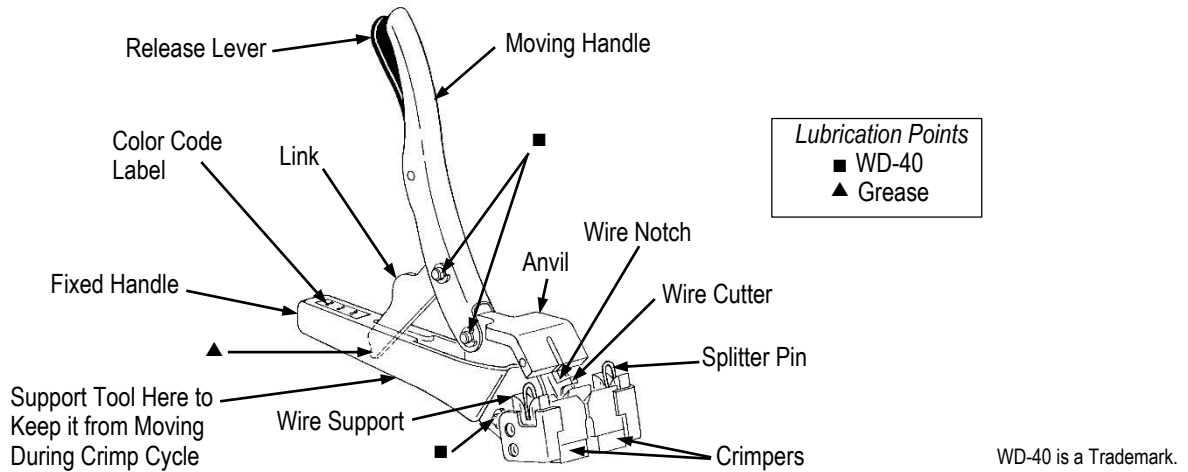

Figure 1
2. DESCRIPTION (Figure 1)
The tool must be held steady during the crimping procedure. If it moves before the crimp is completed, the wires may pull out of the connector. See Figure 1.
2. Place the tool in one hand so that you are supporting the center portion of the fixed handle as indicated in Figure 1.
Remove all loose dirt with a clean bristle brush. Then liberally spray the tool with solvent/cleaner and allow it to dry. Remove any particles that you have loosened. Lubricate the tool with WD-40 lubricant and all-purpose grease. See Figure 1 for lubrication points.